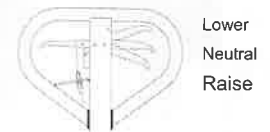

Fig. 10: Lever
If necessary, you can adjust the lever according to following steps (fig. 10):
- c) If the forks do not descent when the control handle is in the **Lower** position, turn the adjusting nut clockwise until raising the control handle lowers the forks. Then check the **Neutral** position according to fig. 10 and be sure that the adjusting nut is in the proper position.